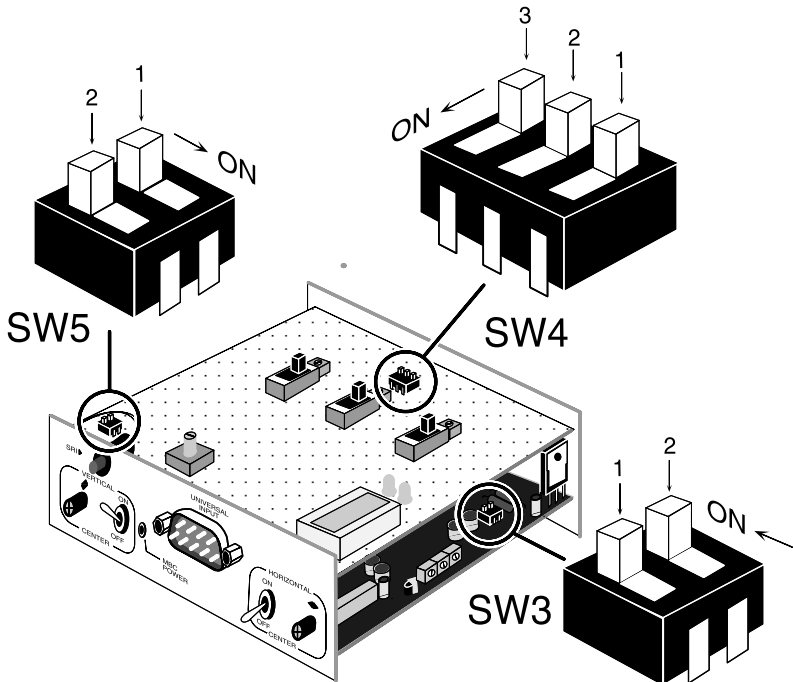

Figure 3
The switches on the DIP switch module used in the RGB 118 and the RGB 118 PLUS are the slide type (see drawing, Figure 3 on facing page). To change the position of the slide switch, a small screw-driver is used to push (slide) the switch to the desired position (enable or disable).
Anti-static, anti-glare or EMI coatings on the face of the CRT may prevent the RGB 118 PLUS SRI from displaying the monitor's scan frequencies properly. Should this occur, an alternate method to obtain a readout is to set the RGB 118 PLUS on top and toward the rear of the monitor as shown in Figures 3 and 4 below. To view the vertical scan frequency using this method, set the RGB 118 PLUS as shown in Figure 3 with the red SRI button toward the rear of the monitor. Press and hold the red SRI button in when the green Vertical (V) LED turns on. To view the horizontal scan frequency, set the RGB 118 PLUS on the monitor as shown in Figure 4. When the red Horizontal (H) led turns on, press and hold the red SRI button until a readout is obtained.